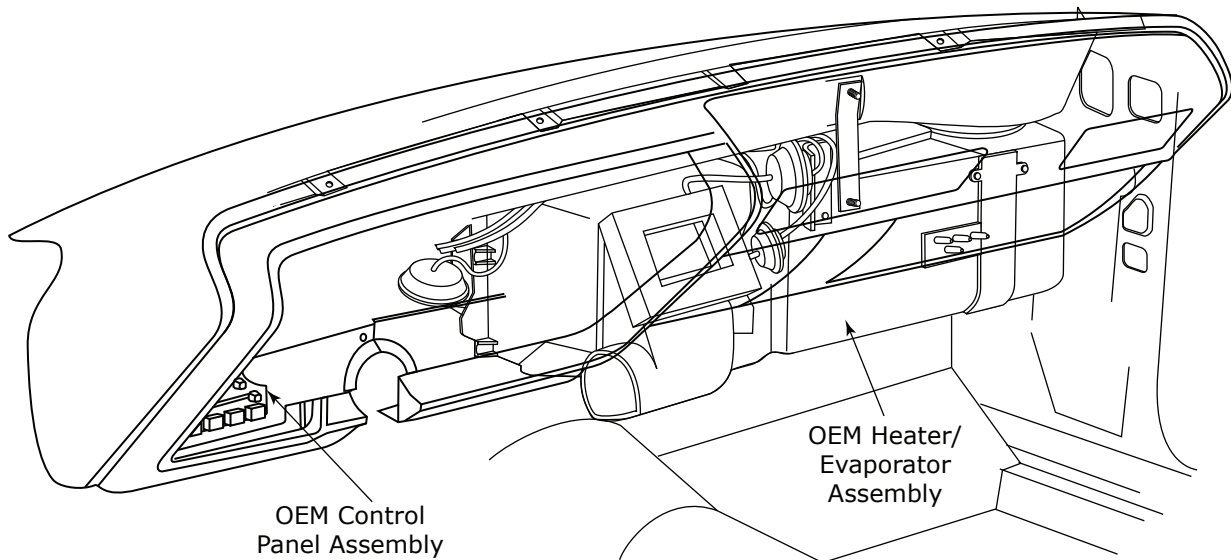

Figure 4
1. Remove the OEM heater/evaporator assembly from under dash as shown in Figure 4, below.
2. Remove the OEM control panel assembly from dash as shown in Figure 4, below.